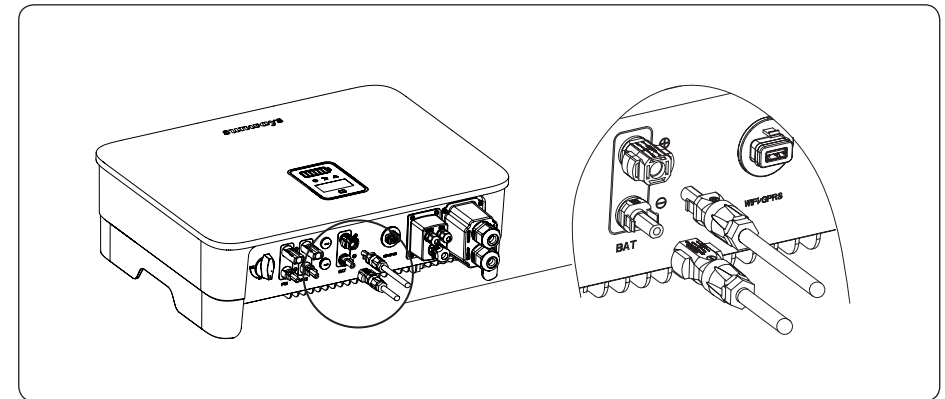

Figure 4-21
- 6) Insert the positive and negative connector into the inverter battery terminals respectively, and a “click” sound represents the assembly in place, as shown in Figure 4-21: